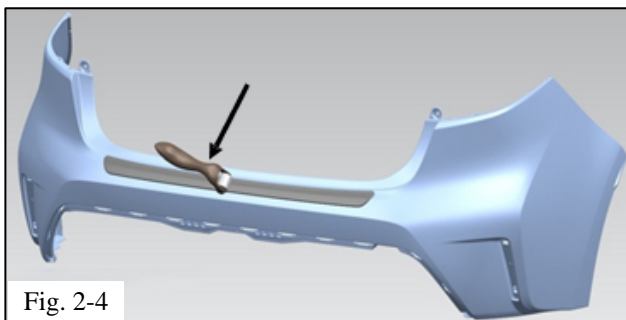

Fig. 2-4
- (f) Once the exposed tape has been secured, pull out and discard all the liners to allow full tape contact with the rear bumper (Fig. 2-4).